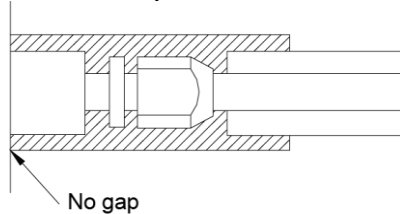

Fig. 8
- 2) The joints of the indoor unit should be wrapped with the insulating material and no gap is allowed on the joint of the indoor unit, as shown in Fig.8.